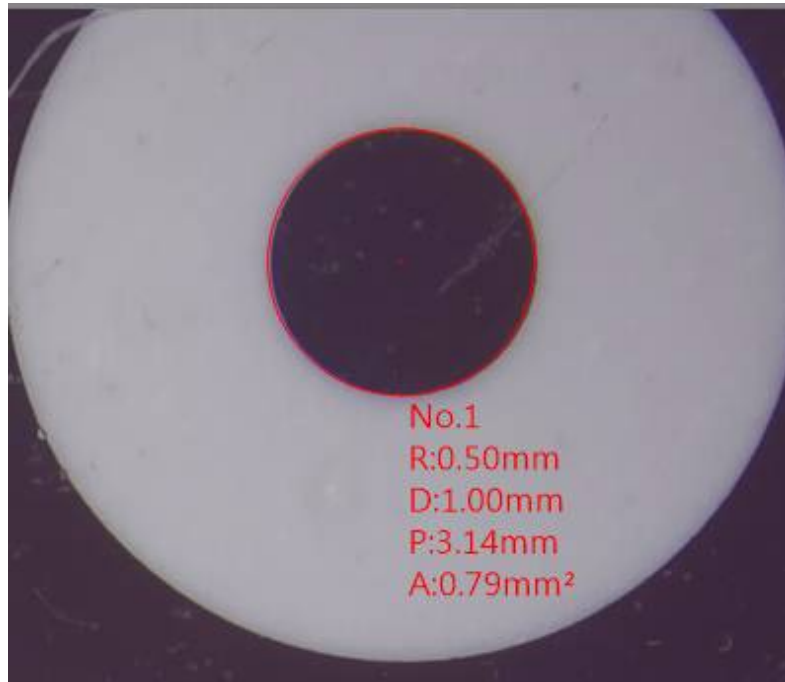

Fig. 5-11 3 Point Circle measurement
- (7) 3 Point Circle : When the object is Circle or just a Arc that can apply  tool. Point 1st point on the edge of object, then point 2nd point, again drag toward 3rd point, that automatically draw a circle. In the Fig. 5-11, Radius is $R=0.50\text{ mm}$, Diameter is $D=1.00\text{ mm}$, Perimeter is $P=3.14\text{ mm}$ and Area is $A=0.79\text{ mm}^2$.